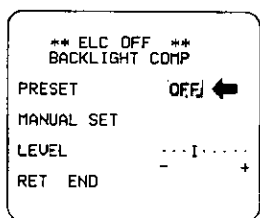

Fig. 51
- The field setup menu is displayed on the monitor screen as shown in Fig. 51.
- After masking is completed, press the Setup Mode Button (SET UP) for more than 2 seconds and the 25 Mask Areas on the monitor screen disappears and the field setup menu shown in Fig. 51 is then displayed.